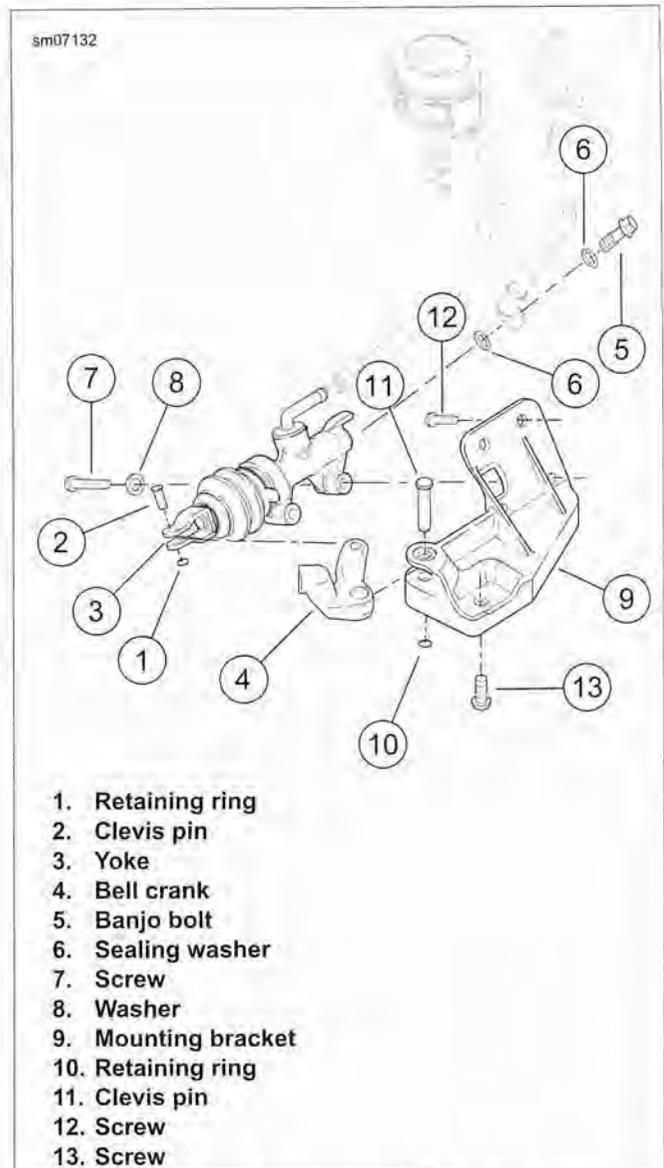

Figure 2-72. Rear Brake Master Cylinder
4. See Figure 2-72. Remove retaining ring (1) from clevis pin (2). Remove clevis pin and disengage master cylinder yoke (3) from bell crank (4). Discard retaining ring.
1. See Figure 2-72. Install mounting bracket (9):
- a. Attach mounting bracket to frame loosely with screws (12, 13) and tighten two screws (12) to 17-22 ft-lbs (23.1-29.9 Nm).
- b. Tighten screw (13) to 17-22 ft-lbs (23.1-29.9 Nm).
2. Install bell crank (4) with clevis pin (11). Secure with **new** retaining ring (10).
3. Install rear master cylinder assembly on mounting bracket with screws (7) and washers (8). Tighten to 17-22 ft-lbs (23.1-29.9 Nm).
4. Fit yoke (3) onto bell crank (4). Install clevis pin (2) and secure with **new** retaining ring (1).